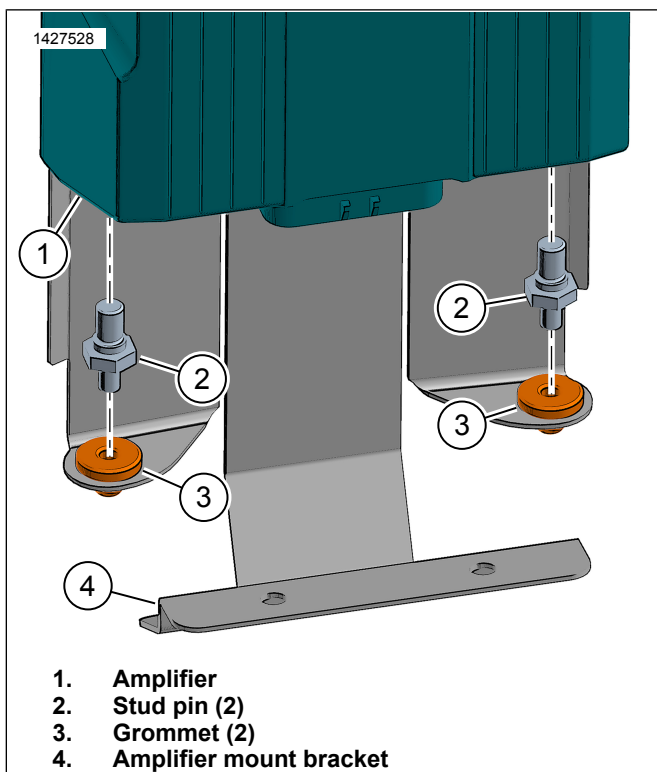

Figure 12. Amplifier Stud Pin
4. See Figure 12. Install grommet (3) into amplifier mount bracket (4).
5. Install stud pin (2) into amplifier (1). Tighten.